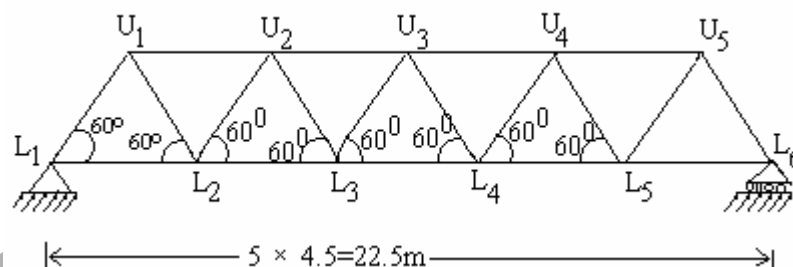

Fig.5
7. Determine the maximum forces in the members U_2L_2 , U_2U_3 , U_3L_3 and L_3L_4 of the bridge truss shown in Fig.5 if uniformly distributed load of 70 kN/m, longer than the span, traverses along the bottom chord members. [16]